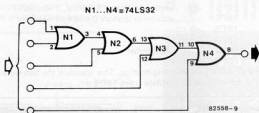

Figure 9. A five-input NOR gate can be used to combine the various OPACK signals, if four EPROM programmers are available.
- One or more (up to four) plug-in EPROM programmers are built, as described in chapter 21 of the TV games computer book. Connections to the main board of the TV games computer are also described there; it should be noted, however, that a multiple-input OR gate must be used to combine the various OPACK signals, if more than one EPROM programmer is connected. A suitable circuit is shown in figure 9.